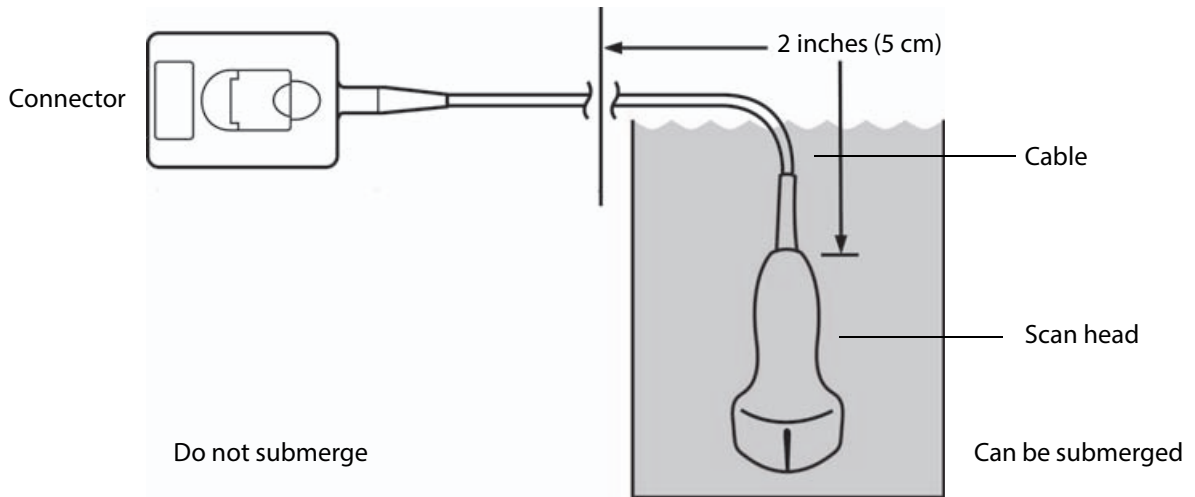

Figure 8-1 Transducer component names
- 1 **Immerse** the transducer in the high-level disinfectant solution. Refer to Table 8-3, “Compatible high-level disinfectants for immersing the transducer” on page 141 for soak times. Ensure that the connector and most of the cable remain out of the fluid. You may submerge 2 inches (5 cm) of the cable proximal to the transducer scanhead. Refer to Figure 8-1.